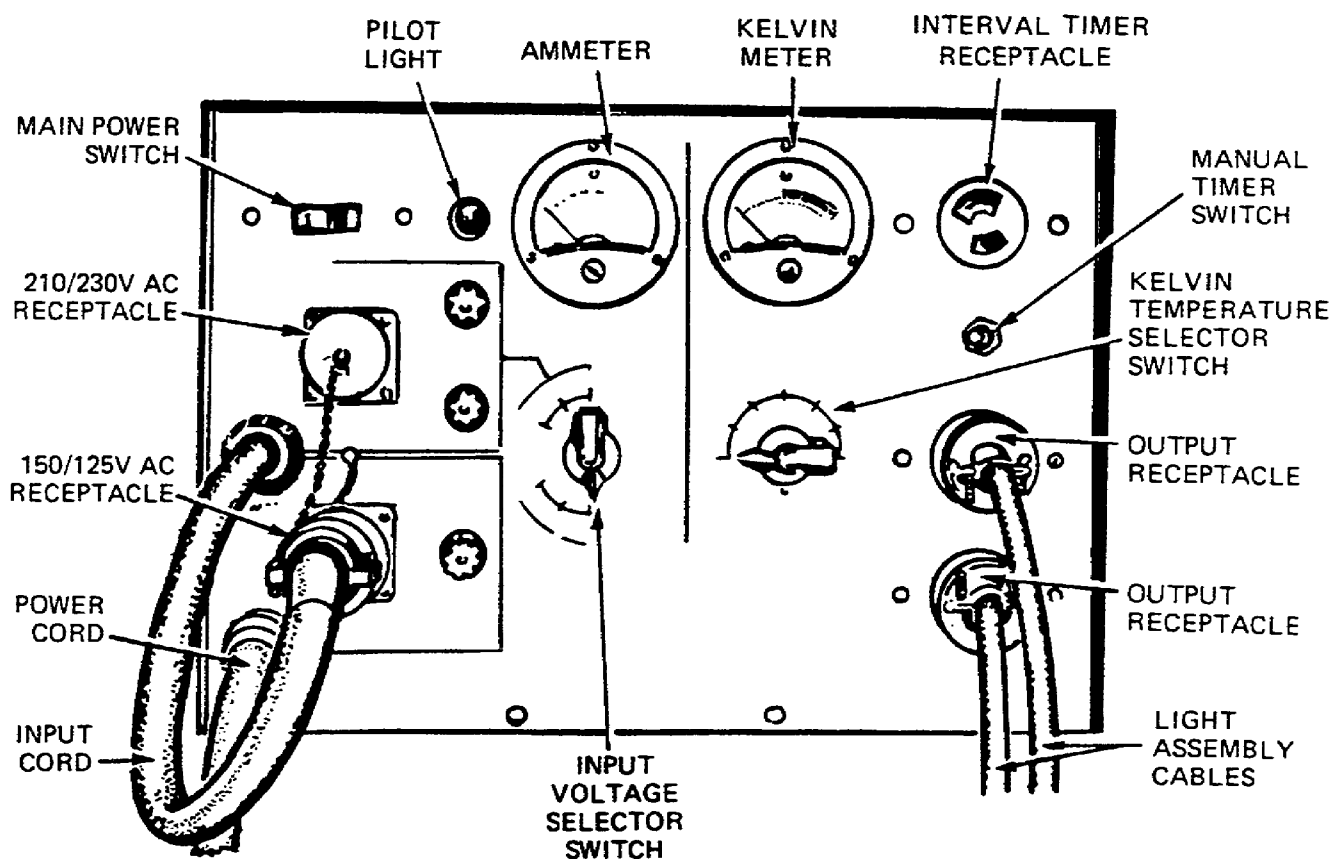

Figure 1-52. Converter Controls.
c. Converter Controls, Indicators and Connectors (fig 1-52).
a. Converter. Prepare the converter for operation as follows (fig 1-52):
- (1) Check to be sure that the main power switch is set to OFF.
- (2) Check to be sure that the power cord is connected to the power source and that input voltage-selector switch is set to the position that most likely matches the voltage of the power source.